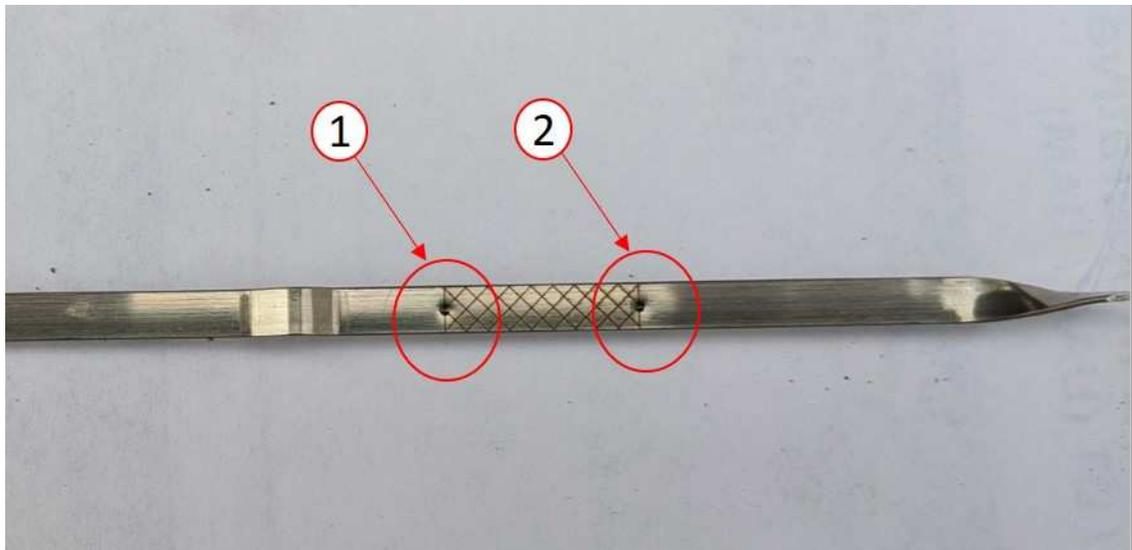

Fig. 1
3. Ensure the oil level is at the "FULL" mark, if necessary top off the oil to the "FULL" mark on the dipstick (Fig. 1).
- 5. Record the vehicle mileage. Note the oil level is at the 'full' mark 5 minutes after hot shut-down and date (Fig. 1) .
- 10. **Check the oil level at least 5 minutes after a hot shutdown on a level surface. If the oil level is at or above the "ADD" mark, the engine is in an acceptable condition and no further service action required (Fig. 1) .
- 11. If the oil level is below the "ADD" mark (Fig. 1) , please submit a digital imaging request to Powertrain Service Center with a copy of the repair order, maintenance records, oil consumption documentation, serial number and Repair/Replace Worksheet for authorization for a long block replacement approval. **